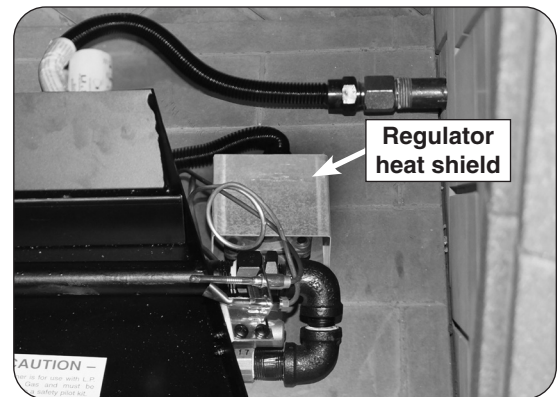

Fig. 15-2 Place regulator heat shield
5. Place regulator heat shield firmly over the regulator (see Fig. 15-2).